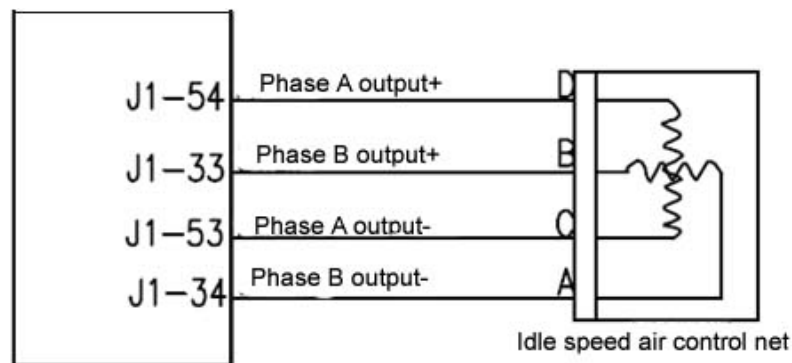

Fig. 1-16
**(1) Function:** A by-pass air intake passage will be provided by the idle speed actuator with stepper motor. When the throttle is closed, air will enter into the engine through this by-pass passage. With a stepper motor, the ECU can adjust the size of the passage, and then confirm the air volume into the engine. At the same time, the ECU can also adjust the fuel injection volume on the basis of the air volume. With the stepper motor, the ECU can change the working condition for the engine according to actual situations.
**(2) Structure and principle:** As a mini-size motor, the stepper motor consists of several steel stators in a circle and one rotator. Every stator is winded with a coil. The rotator is a permanent magnet, and at the center of the magnet, there is a nut. All the coils of the stators are connected with the power supply constantly. As long as the current direction of one of the coils changes, the rotator will turn for an angle. When the current direction of the coil of each stator changes in a certain proper sequence, a rotary magnetic field will be formed, and the rotator of the permanent magnet will rotate in a certain direction.
**(3) Connection of wiring diagram (Fig. 1-16)**